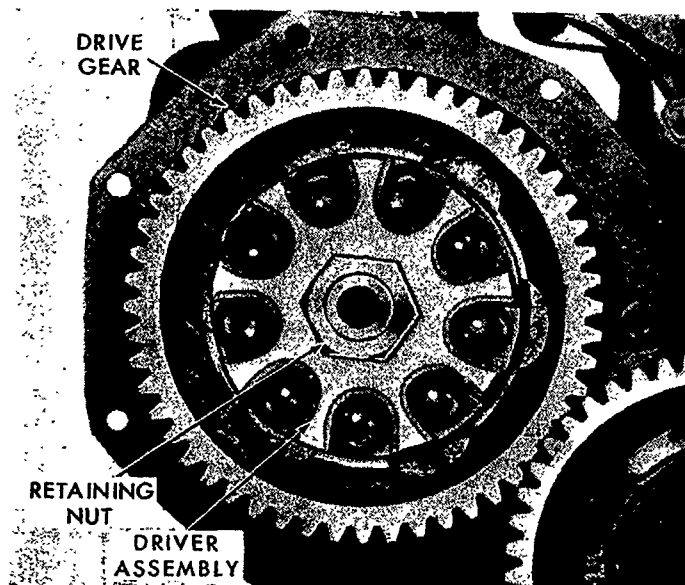

Figure 37
If it becomes necessary to install a new drive gear, Figure 37, remove the front cover as outlined on page 14, under "FRONT COVER REMOVAL", and repeat the procedure for removing the driver assembly. The drive gear is keyed to the distributor drive shaft and, at this point, can be removed.
1. Position a new gear and install the driver assembly, as shown in Figure 37. Install the retainer nut (left-hand thread) and tighten to the specified torque, page 68.